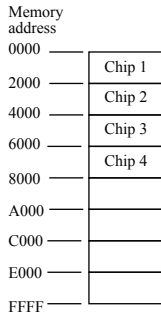

Figure 14-3 Memory Map
Each memory chip has a Chip Enable (CE) input that has to be LOW for the chip to be turned on. When the memory chip is enabled, it will respond to addresses and commands to read and write memory locations. When it is disabled, the chip ignores these signals and draws very much less power. Each chip has 13 address wires, $2^{13} = 8192$, so that leaves three wires out of the 16 coming from the computer to select which chip is enabled for which address. The normal practice is to split the memory up into blocks of addresses and assign whole blocks to each chip as shown in Figure 14-3.